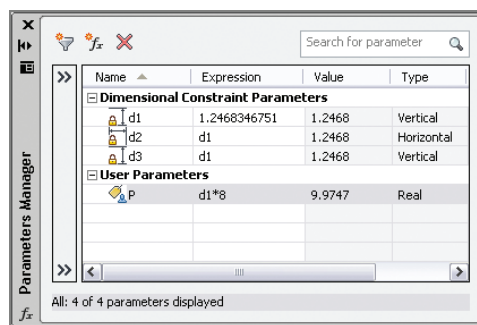

FIGURE 12.8 Adding a user parameter in the Parameters Manager
9. Type **P** (for Perimeter) as the user parameter name and press Enter. Double-click the Expression value, type **d1*8** (d1 times 8), and press Enter (see Figure 12.8). The perimeter of the square is equal to eight times the length of half of one of its sides. Close the Parameters Manager.